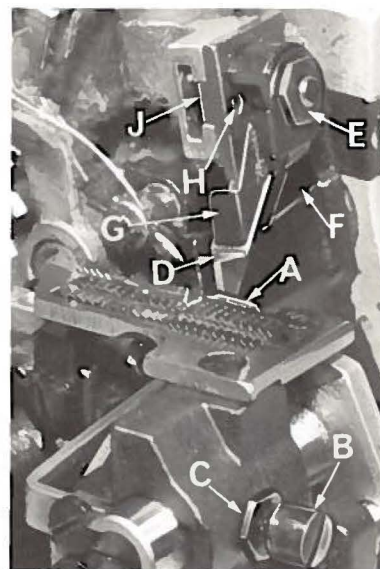

Fig. 13
Replace lower knife holder assembly. Lower knife (A, Fig. 13) should be set with cutting edge flush with throat plate surface. Adjustments are made with hexagonal head screw which holds lower knife. Lower knife is spring pressed against upper knife, so no lateral adjustment is necessary when width of trim is changed.
Replace upper knife assembly. Clamp upper knife (D, Fig. 13) in position, setting nut (E) to hold clamp (F) in its most clockwise position against upper knife. At bottom of its stroke, front cutting edge of upper knife should extend not less than $\frac{1}{64}$ inch below cutting edge of lower knife. The chain guard (G) should be set down against the upper knife and slightly back from the cutting edge.